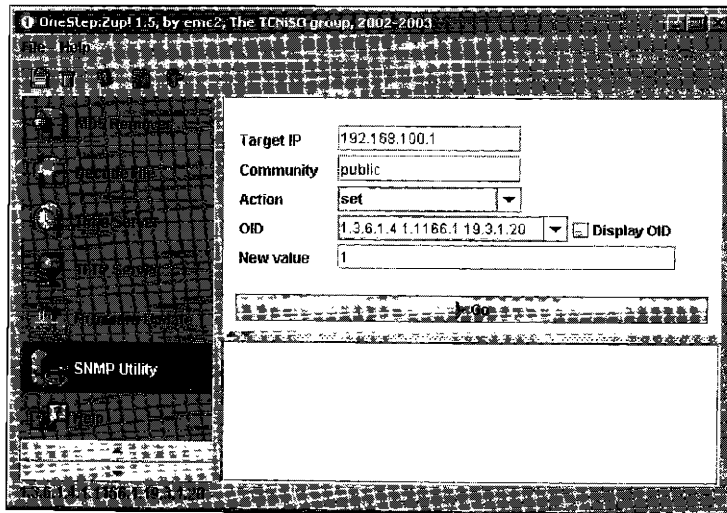

Figure 12-6: The SNMP agent in OneStep
Simple Network Management Protocol (SNMP) is used to control and monitor Internet-ready devices, such as cable modems. Devices that are to be monitored and controlled by SNMP run a compatible daemon (the server), and users who want to control the device communicate with it using SNMP agent software (see Figure 12-6). The SNMP server uses a password-like feature called a *community string* for security. Only requests that contain this specific string are executed; all other requests are ignored.
To enable hybrid mode using an SNMP agent (like the one included in OneStep), change the `cmHybridMode` OID (1.3.6.1.4.1.1166.1.19.3.1.20) to true (1). To disable hybrid mode, or change the modem back to its original settings, set this value to false (2). Figure 12-6 shows how to enable hybrid mode in OneStep ([www.tcniso.net/Nav/Software](http://www.tcniso.net/Nav/Software)). If you receive a time-out error from your SNMP agent utility, then you are either using the wrong community string, or the SNMP server on the modem is disabled, or you are not properly connected to the modem.
To enable hybrid mode using an SNMP agent (like the one included in OneStep), change the cmHybridMode OID (1.3.6.1.4.1.1166.1.19.3.1.20) to true (1). To disable hybrid mode, or change the modem back to its original settings, set this value to false (2). Figure 12-6 shows how to enable hybrid mode in OneStep ([www.tcniso.net/Nav/Software](http://www.tcniso.net/Nav/Software)). If you receive a time-out error from your SNMP agent utility, then you are either using the wrong community string, or the SNMP server on the modem is disabled, or you are not properly connected to the modem.